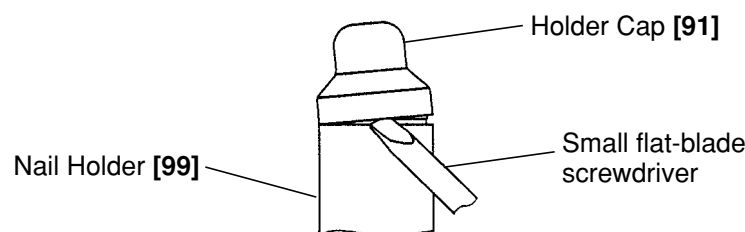

Fig. 23
(a) Disassembly (See Fig. 23.)
- Insert a small flat-blade screwdriver between the Holder Cap [91] and the Nail Holder [99] to widen the clearance. Then the Holder Cap [91] can be removed (Fig. 23). At this time, be careful not to scratch the Nail Holder [99] and the Holder Cap [91]. Remove the Machine Screw M4 x 50. Then the Holder Shaft [95], Nail Holder [99] and other parts can be removed.